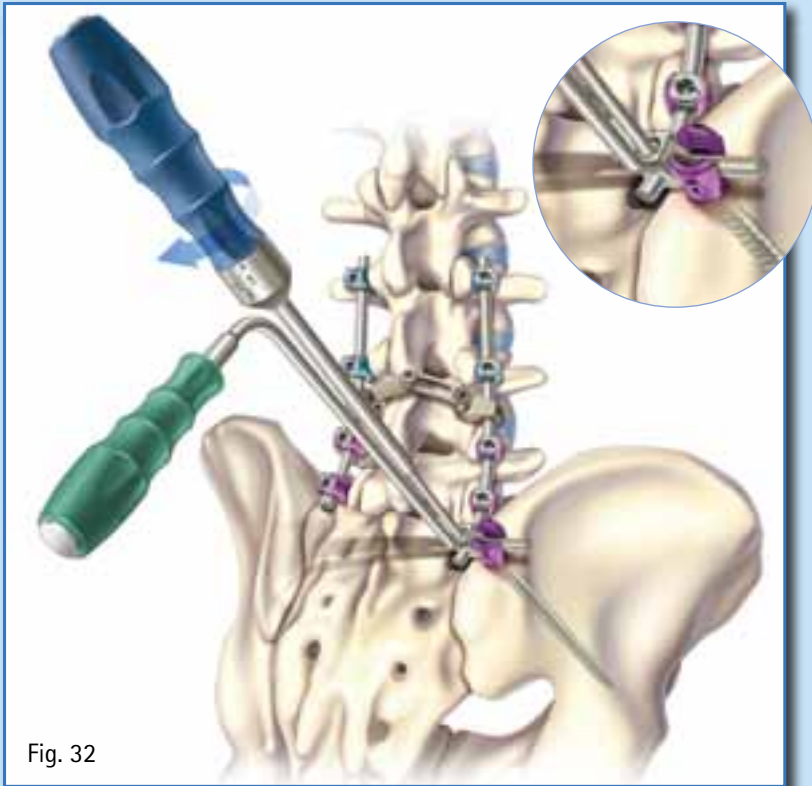

Fig. 32
- Final tighten by applying 4 Nm (36 in/lbs) of torque using the torque wrench screwdriver (FW207R) and rod-to-rod connector counter torque device (FW495R). (Fig. 32)